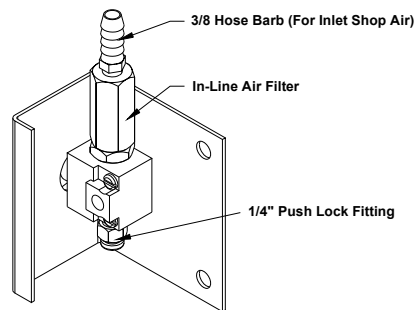

Fig. 8
20. **The shop air supply must be clean, dry, lubricated, and regulated to 90-120 psi.** The air supply must run through a Filter/Regulator/Lubricator (FLR) within 30 feet of factory assembled air valve. **Failure to provide clean, dry lubricated and pressure regulated air will void warranty on pneumatic components.** Push 1/4" airline through the PVC chase beginning at the power unit. Connect the airline to the appropriate push lock fittings at each end. Refer to **Fig. 8**.